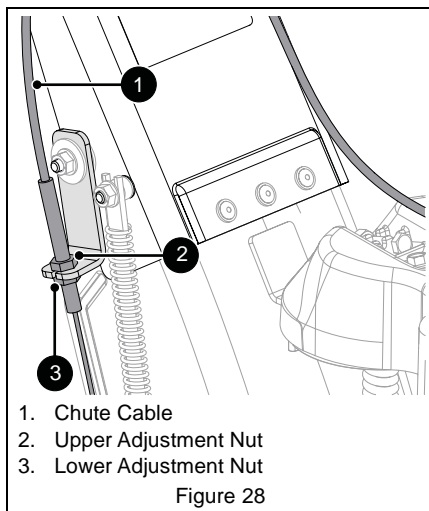

Figure 28
2. Adjust nuts on chute cable. See Figure 28.